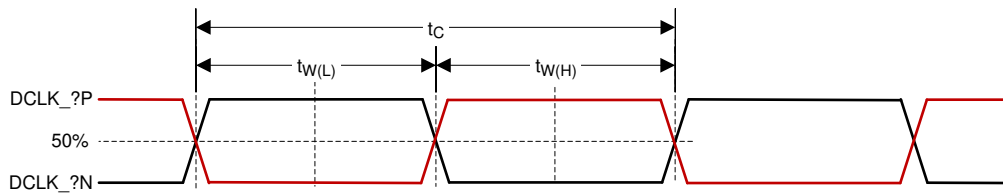

图 5-12. HSSI CLK Characteristics
- (6) See 图 5-12 for pulse duration high and low for HSSI.